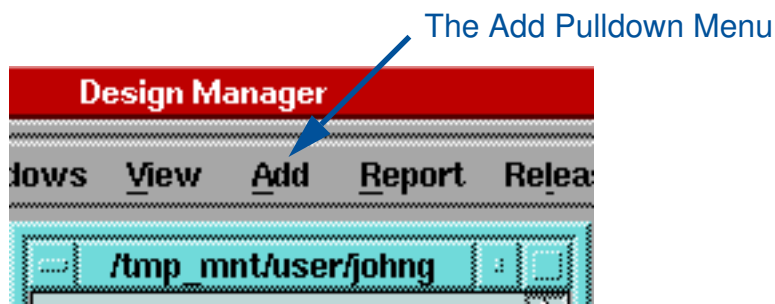

Figure 3. The Add Pulldown Menu
5. Check the contents of your current directory to make sure you do not already have a directory named *training*. If you have a directory named *training*, you can use it and skip to step 6. If you do not have a directory named *training*, place the cursor on the Add pulldown menu, as shown in Figure 3, and hold down the Menu mouse button (the right mouse button, by default). When the contents of the Add menu are displayed, place the cursor on the **Add > Directory** menu item and release the Menu mouse button. In the prompt bar that is displayed, enter: **training** and then either click the Select mouse button (the left mouse button by default) on **OK**, or press the Return key.